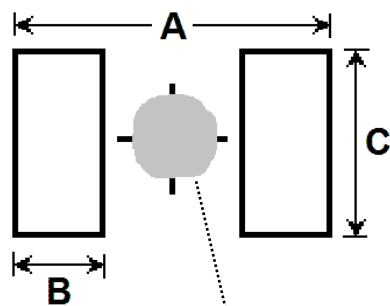

**FIGURE 5**
The TVS low capacitance device configuration described in this data sheet is shown in Figure 4 involving a TVS and a unique diode in series and opposite direction. For bidirectional low capacitance TVS applications, use two (2) low capacitance TVS devices as described in this data sheet in anti-parallel as shown in Figure 5. This will result in twice the capacitance of Figure 4 specified in this data sheet.